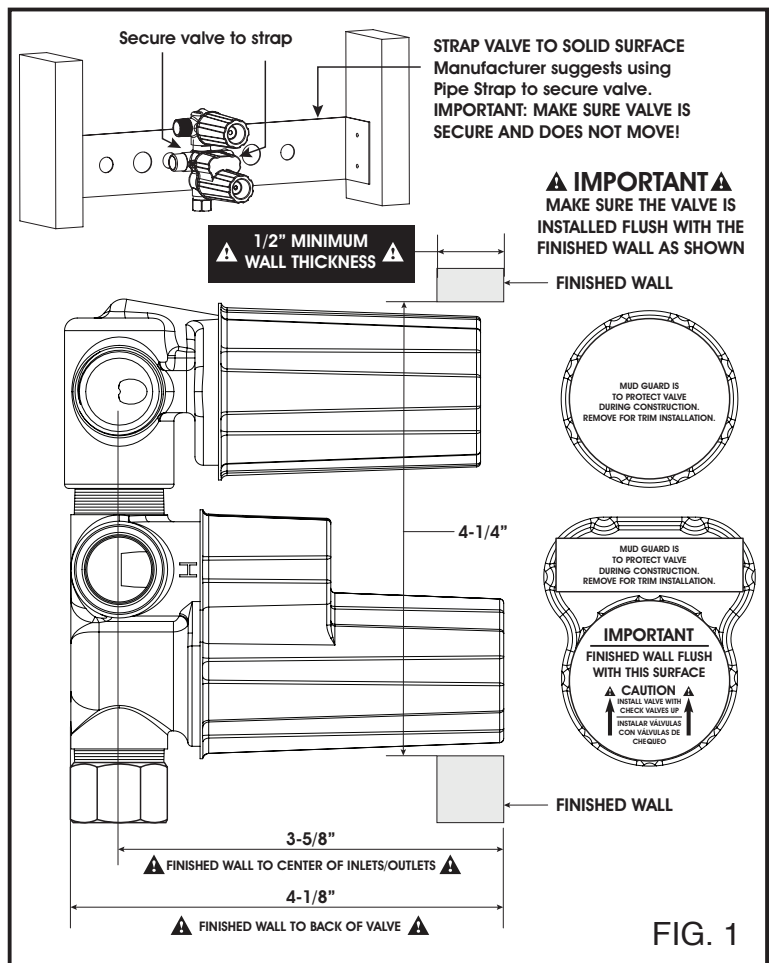

FIG. 1
1. Strap securely into place using plumber supplied pipe strap. FIG. 1. Connect piping to 1/2" NPT female connections or 1/2" slip fit. NOTE: "H & C" MARKINGS ON SIDE OF VALVE.
2. The depth of rough-in should account for thickness of wall materials to be used, combining thickness of wall board and finished wall materials. It is CRITICAL TO PLACE THERMO VALVE MUD GUARD FLUSH WITH THE FINISHED WALL. FIG. 1.